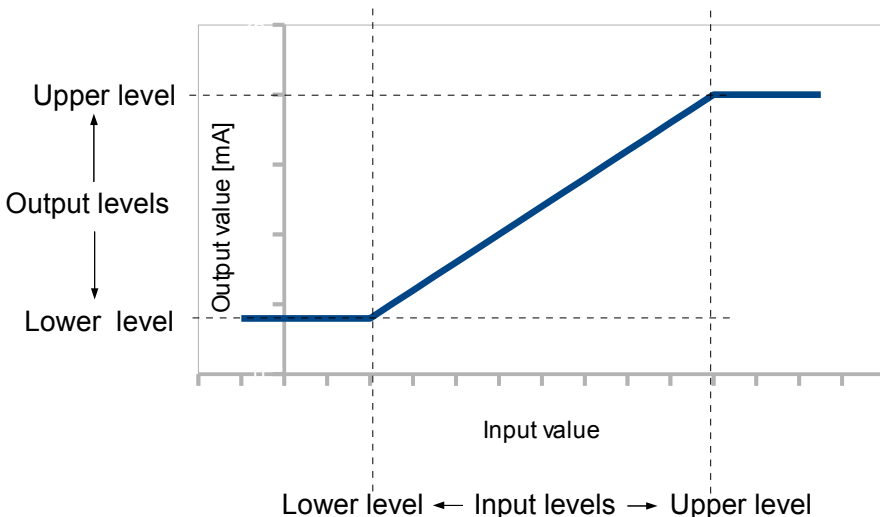

Fig. 7.80. The relation between the input and output for **External output**
**Lower level** and **Upper level** parameter describe the transfer function (linear, see Fig. 7.80). **Lower level** of the output defines the value which can be generated when the value of the input signal is equal to the input **Lower level**. **Upper level** of the output defines the value which can be generated when the value of the input signal is equal to the input **Upper level**.